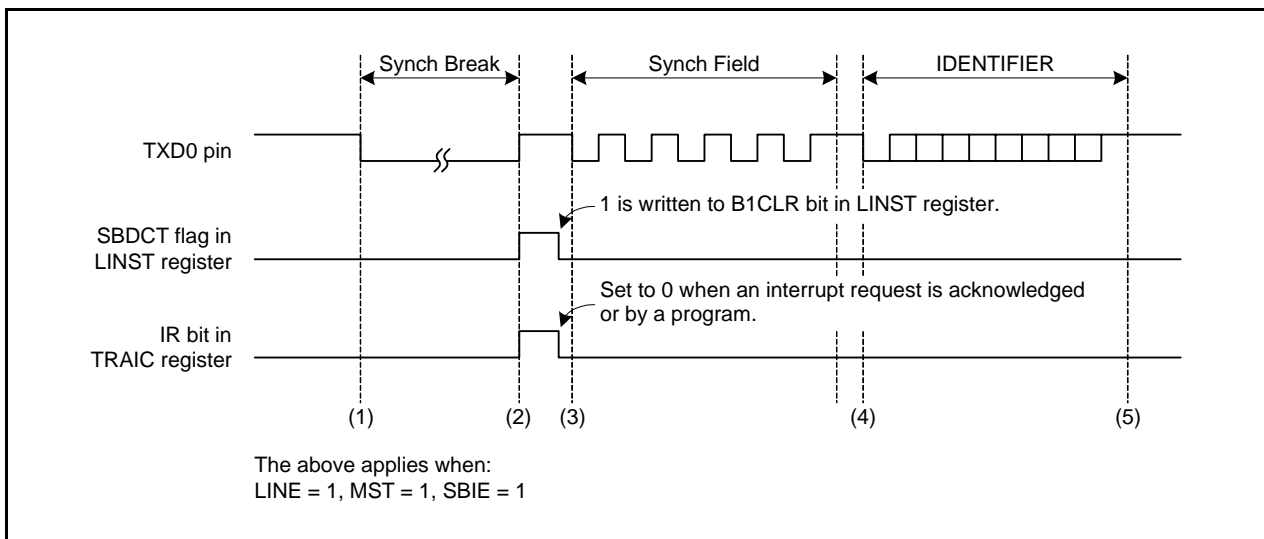
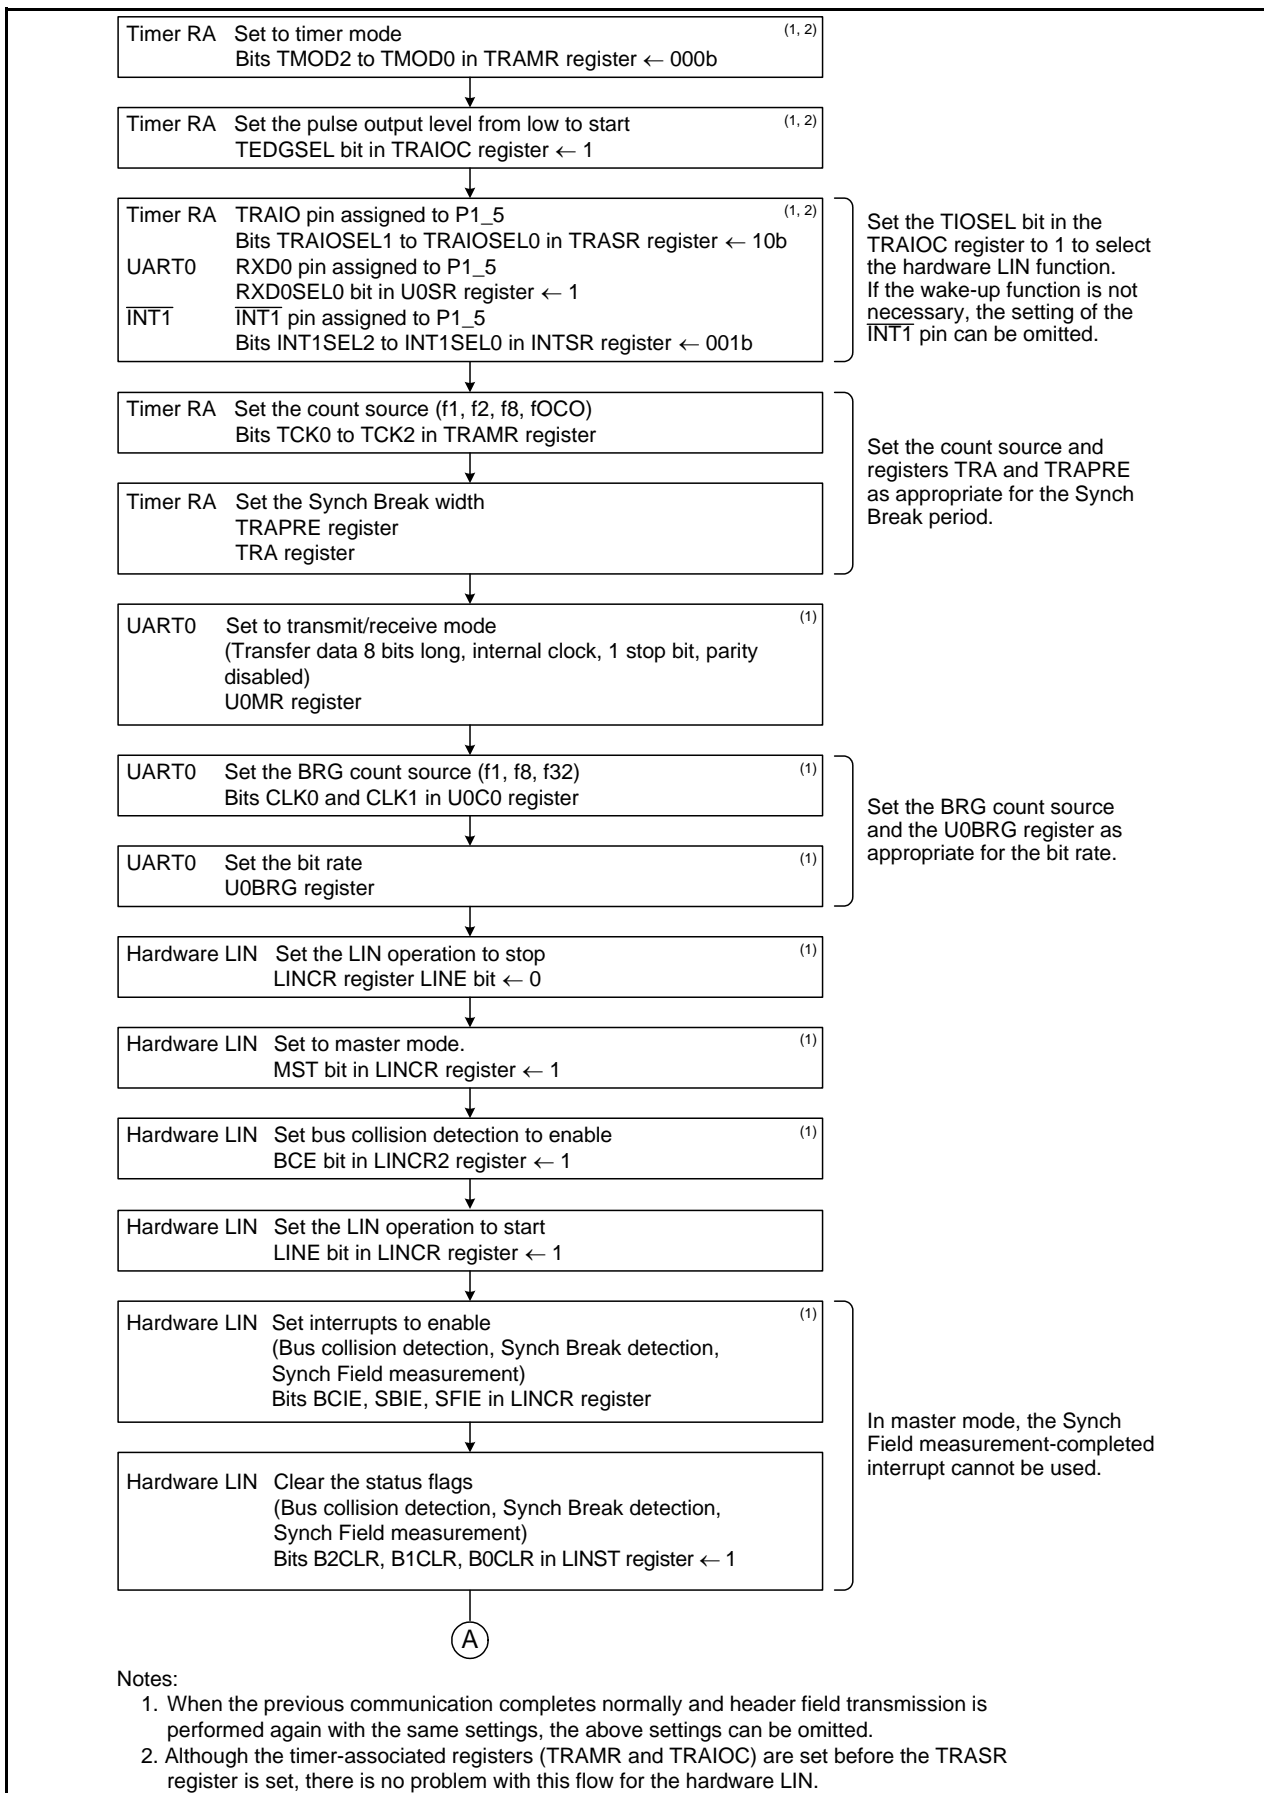
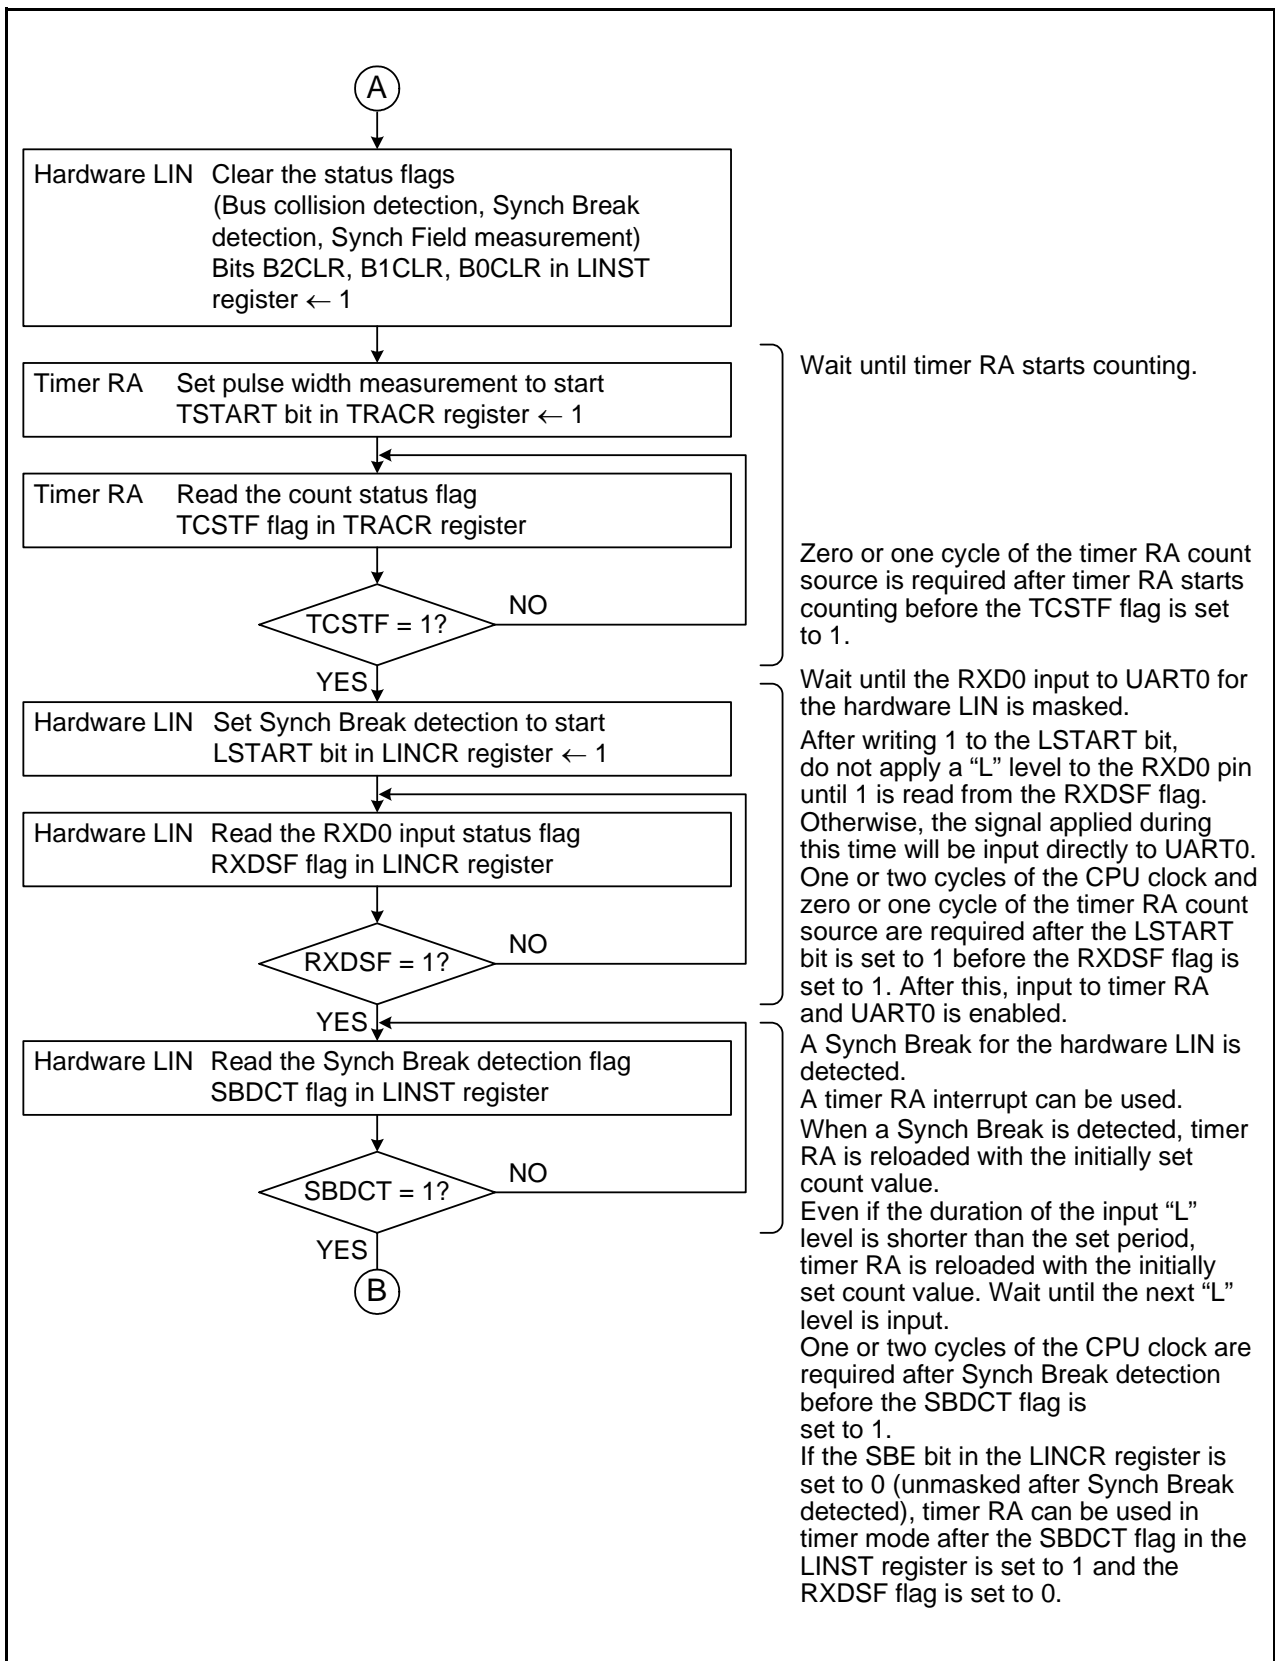

Figure 29.2 Operating Example during Header Field Transmission
Figure 29.3 Header Field Transmission Flowchart Example (1)
Figure 29.7 Header Field Reception Flowchart Example (2)
3. Inputs to timer RA and UART0 are disabled immediately after the LINE bit is set to 1 (LIN operation starts) (refer to **Figure 29.3 Header Field Transmission Flowchart Example (1)** and **Figure 29.7 Header Field Reception Flowchart Example (2)**).
Figure 29.2 shows an Operating Example during Header Field Transmission in master mode. Figures 29.3 and 29.4 show Examples of Header Field Transmission Flowchart.